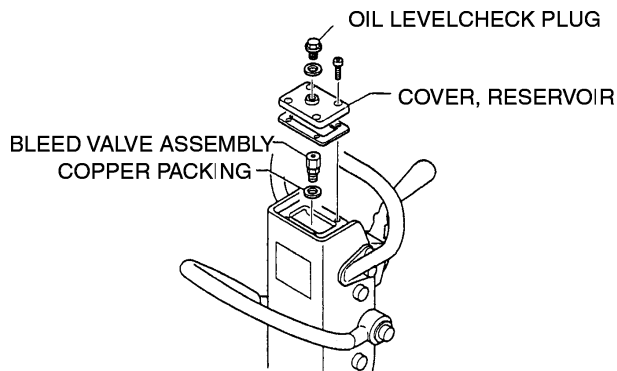

Figure 21. Hydraulic Oil Maintenance
3. Remove the reservoir cover at the top of the pump (Figure 21). Remove the bleed valve assembly within the pump using a 17 mm box wrench.